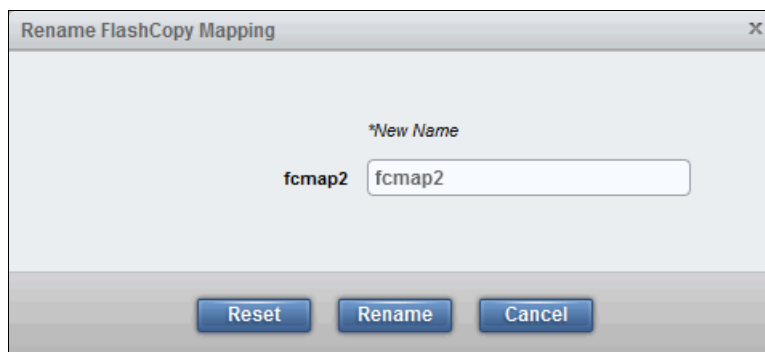

Figure 10-35 Enter a new name for the FlashCopy mapping
3. Enter the new name for the FlashCopy mapping, as shown in Figure 10-35. Click **Rename** to finish.